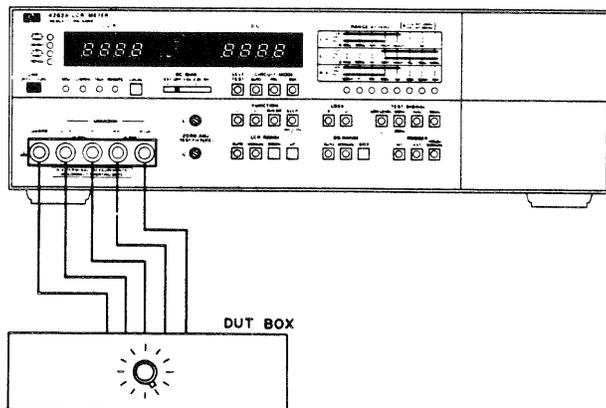

Figure 4-2. Capacitance Accuracy Test Setup.
1. Connect Test Leads (HP P/N 16361-61605) between 4262A UNKNOWN terminals and HP 16361A DUT Box (see Figure 4-2). When TEST SIGNAL frequency is 10kHz, use HP 16362A in place of HP 16361A.